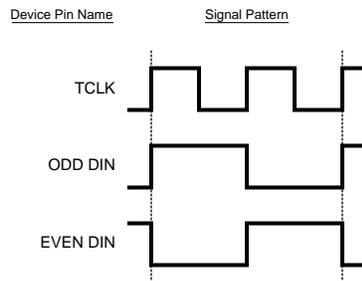
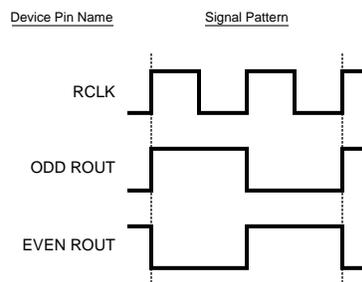
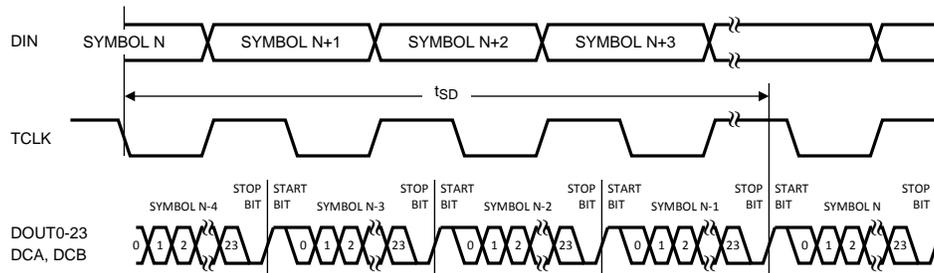

Figure 1. Serializer Input Checker-board Pattern
Figure 2. Deserializer Output Checker-board Pattern
Figure 8. Serializer Delay
| I DDT  | Serializer (Tx)Total Supply Current(includes load current)   | R L = 100ΩPre-emphasis = OFFVODSEL = LChecker-board pattern (Figure 1) | f = 40 MHz |     | 40  | 80  | mA    |
|                   |  | R L = 100ΩPre-emphasis = ONVODSEL = LChecker-board pattern (Figure 1)  | f = 40 MHz |     | 45  | 85  | mA    |
|                   | Serializer (Tx)Total Supply Current(includes load current)   | R L = 100ΩPre-emphasis = OFFVODSEL = HChecker-board pattern (Figure 1) | f = 40 MHz |     | 40  | 85  | mA    |
|                   |  | R L = 100ΩPre-emphasis = ONVODSEL = HChecker-board pattern (Figure 1)  | f = 40 MHz |     | 45  | 90  | mA    |
| I DDR  | Deserializer (Rx)Total Supply Current(includes load current) | C L = 8 pF LVCMOS OutputChecker-board pattern(Figure 2)                    | f = 40 MHz |     |     | 95  | mA    |
- (1) Figure 1, Figure 2, Figure 8, Figure 12, and Figure 14 show a falling edge data strobe (TCLK IN/RCLK OUT).
| $t_{SD}$   | Serializer Delay                        | $R_L = 100\Omega$ , (Figure 8)VODSEL = L, TRFB = H                          |     | $3.5T + 2.85$ | $3.5T + 10$ | ns        |
|            |   | $R_L = 100\Omega$ , (Figure 8)VODSEL = L, TRFB = L                          |     | $3.5T + 2.85$ | $3.5T + 10$ | ns        |